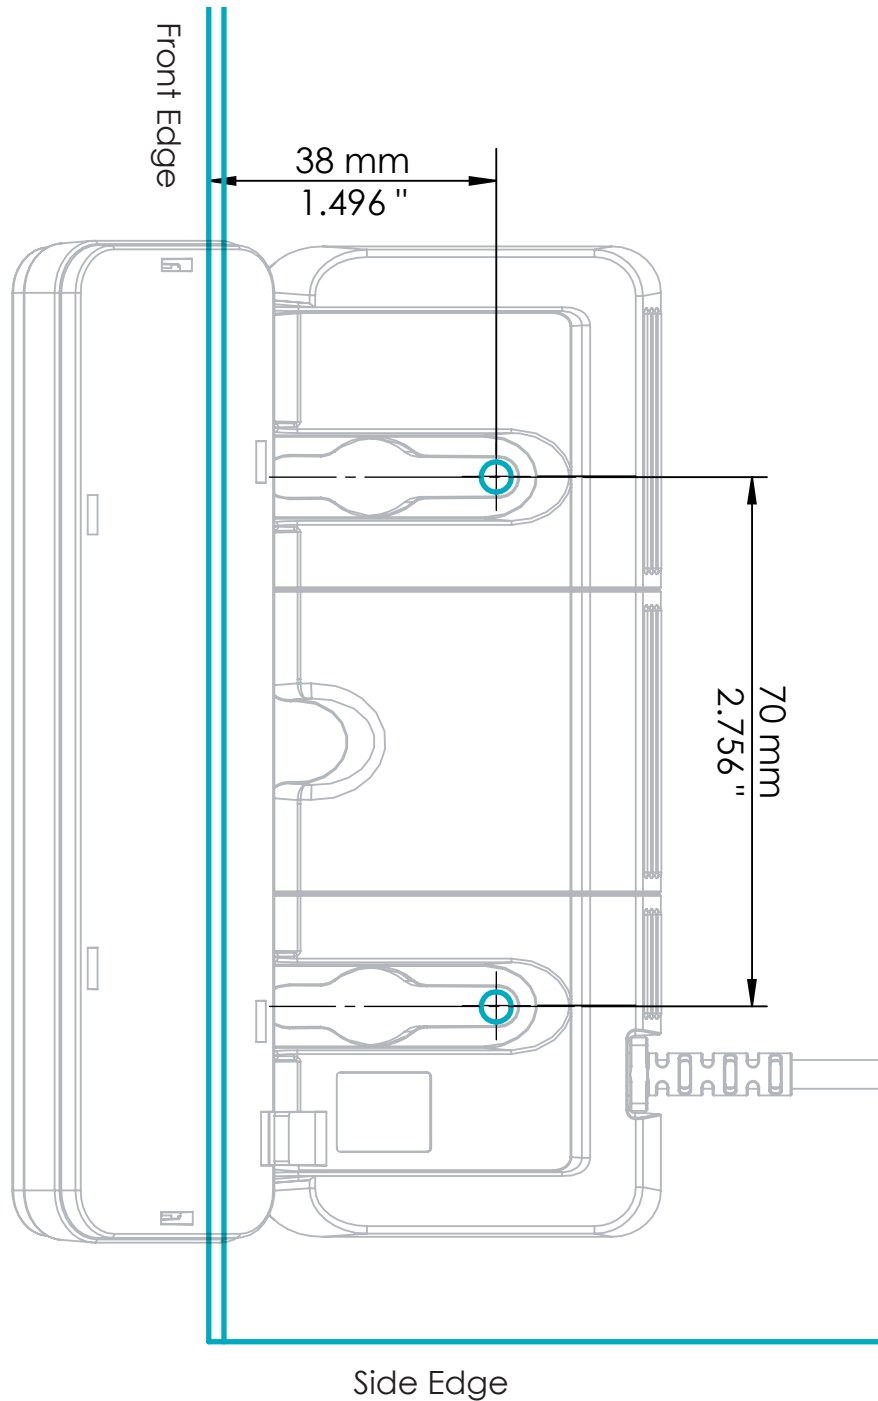

Fig. 8: Drilling Template, DMUI-TOUCH-C-FX
2. Insert the Strain Relief into the designated slot on the Handset (Fig. 8).